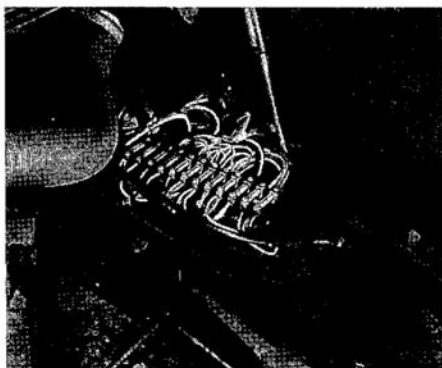

Fig. 24
11. Install electrical wire to connect the control switch with the wiper motor (see Figs. 24, 25, and 26). This procedure requires the removal of both seats, floor mats, floorboards, and the tunnel rear cover.
13. Connect ground wire to ground terminal screw. Connect red wire (without snap-on connector) of wire loom to Fuse 4 in the fuse box (see Fig. 24),